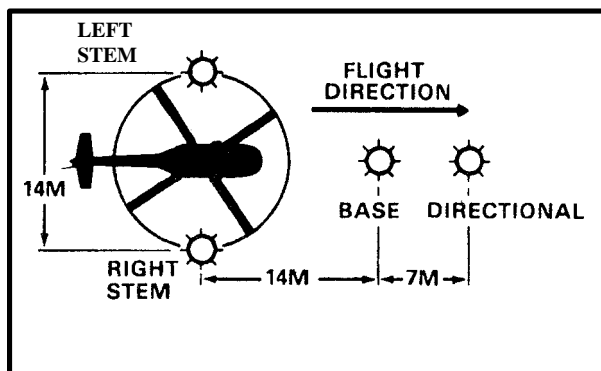

Figure 4-11. Inverted "Y" Light Formation
(3) Night vision goggles (NVG) compatible (blue-green) lighting must be used when the aircrew is using NVG.
**e. The Inverted "Y" Light Formation.** The inverted "Y" light formation is set up using four lights positioned according to Figure 4-11. The cargo is placed between the two stem lights and aligned with the base and directional lights. The single aircraft or lead aircraft in a formation flight will touch down or hover into the "Y," midway between the legs of the "Y."